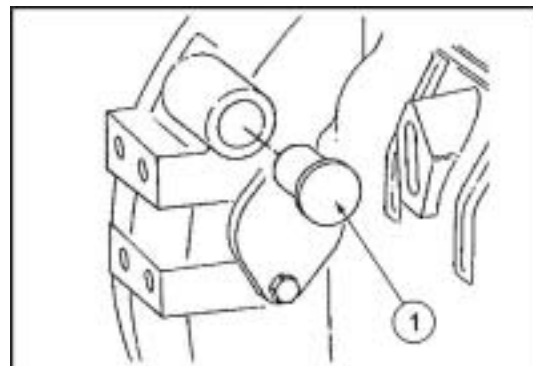
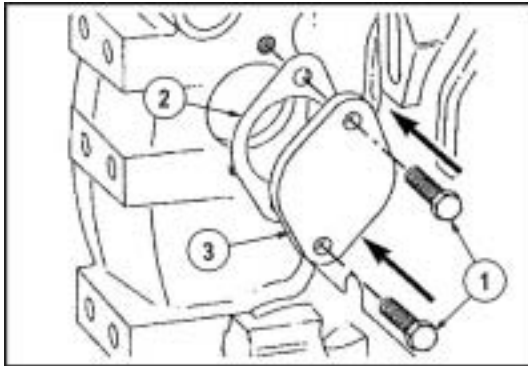
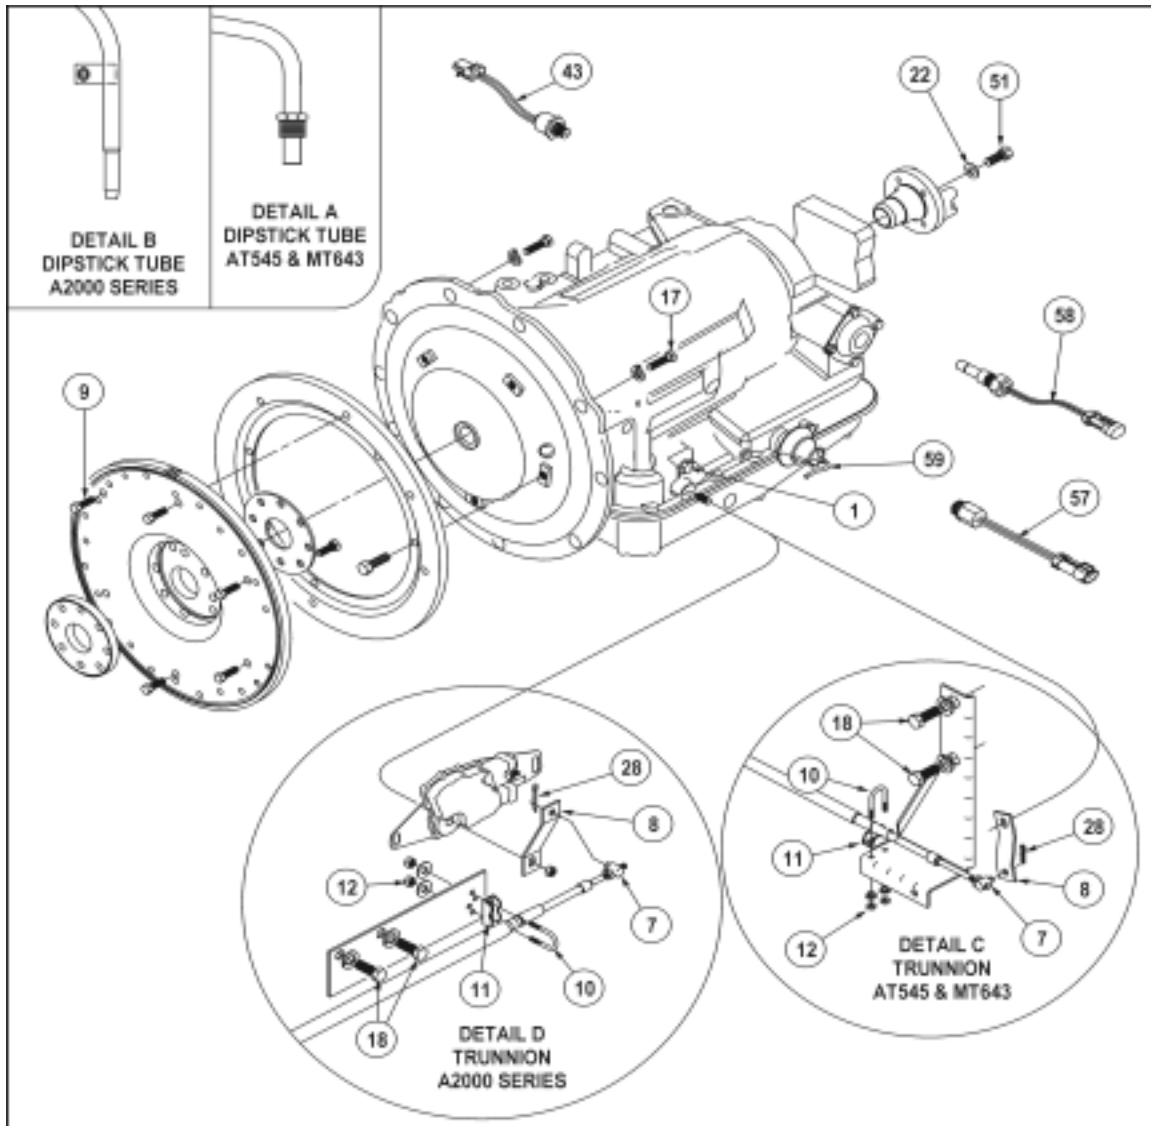

Figure 2—Plug
Figure 3—Cover
Figure 4—AT545 Transmission
8. Remove the barring gear hole plug (1). Lay the plug aside for use during installation. **Figure 2.**
9. Remove the capscrews (1) to remove the access plate (3). Discard the gasket (2); lay the cover aside for reuse. **Figure 3.**
10. Disconnect back-up light switch (43). **Figure 4.**
11. Disconnect neutral sensor switch (57).
12. Disconnect speedometer sensor (58).
13. Remove the electronic shift modulator (59).
14. Remove fluid level dipstick tube assembly. **Figure 4—Detail A and Detail B.**
15. Remove cotter pin (28) from trunnion shaft, at the end of the selector cable. **Figure 4, Detail "C" or "D"**. Discard the cotter pin.
16. Remove trunnion (7) from selector arm (8).
17. Remove selector arm (8) from transmission.
18. Remove capscrews (18) and lockwashers from the shifter cable bracket. **Figure 4**.
1. Using the barring tool, rotate the engine clockwise to remove capscrew (9) through the access hole. **Figure 3** and **Figure 4**.
2. Continue to rotate the engine clockwise to remove each of six capscrews (9) from the flywheel.
3. Remove 12 capscrews (17) and lockwashers (7) from the torque converter adapter. **Figure 4**.
3. Install a drift of sufficient length to align the holes in the torque converter to the flywheel, through the access hole. **Figure 3.**
4. If necessary, install the yoke onto the transmission output shaft. Install washer (22). Torque the capscrew (51) to 102-121 ft-lbs. (11.5 – 13.7 Nm). **Figure 4.**
5. Install capscrews (17) and lock washers. **Figure 4.** Snug up all the capscrews to make certain of the alignment.
8. Turn the engine clockwise to align the torque converter and flywheel to install capscrew (9) in six places, through the access hole. Torque the capscrews as you go to 50 ft-lbs. (5.65 Nm). **Figure 3.**
9. Install the access hole cover (3) using a new gasket. (2). Torque the capscrews (1) to 18 ft-lbs. (24 Nm).
10. Remove the barring tool and install the plug (1) into the barring hole. **Figure 2.**
1. Install transmission oil temperature sender (1), if so equipped. **Figure 4.**
2. Install neutral switch (57).
3. Install Electronic Shift Modulator (59).
4. Install speed sensor (58).
5. Install backup light switch (43).
6. Install shift selector arm (8). Torque nut (8) to 15 - 20 ft-lbs. (1.7 - 2.25 Nm). Tighten jam nut.
7. Install fluid level dip stick tube. **Figure 4, Detail A or Detail B.**
9. Install trunnion shaft (7) into the shifter arm (8). **Figure 4.**
10. Install cotter pin (28).
11. Install capscrews (18) and lock washers to mount the shifter cable bracket. Torque to non-designated torque value as listed in Section 005—Introduction.